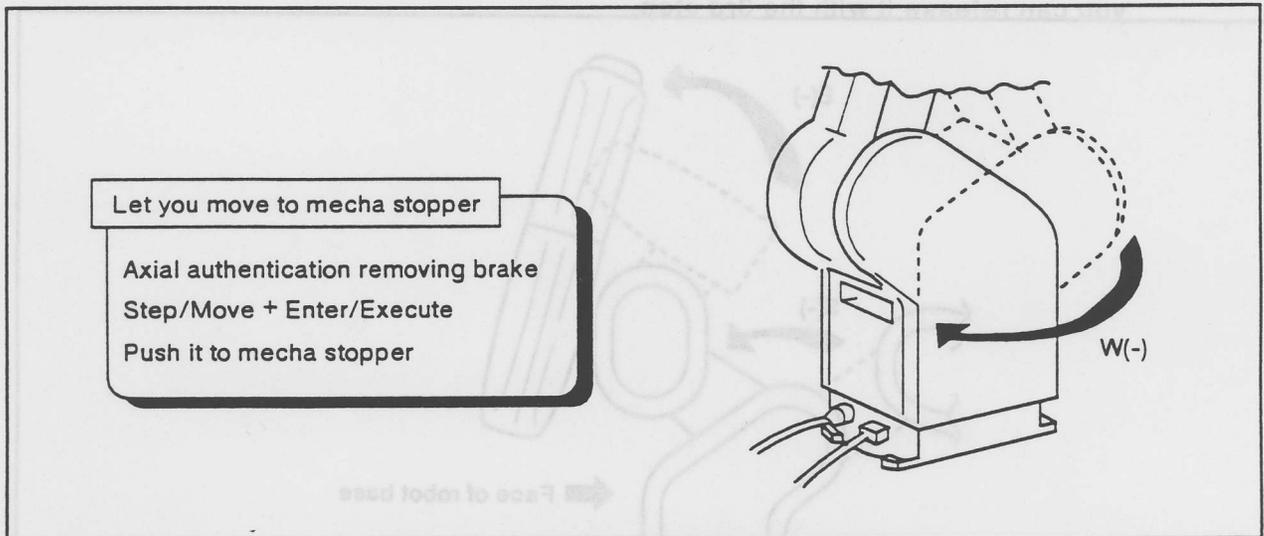

Fig. 3.22 Setting the wrist axial origin
- ② Make sure that the first entry has "1".
- ③ Push [STEP / MOVE] + [ENT / EXE] to release the brake for 5 seconds after beeping.
- ④ Move the waist joint slowly in both hands to (-) direction: (See Figure 3.22), and hit it to the mechanical stopper. Although the brake works again after 15 seconds, you can release it with the 3rd operation.